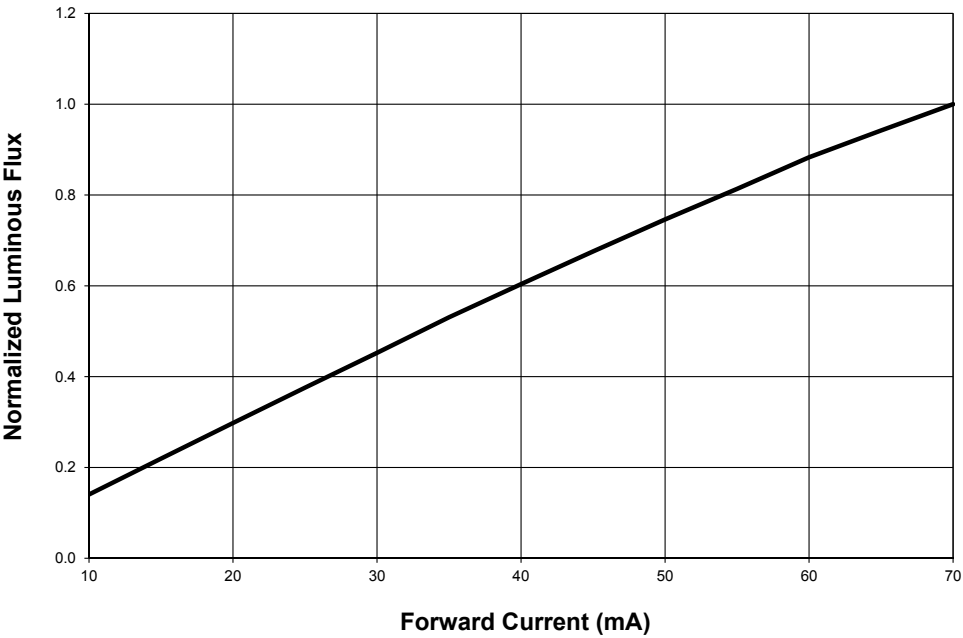

Figure 4. Typical luminous flux vs. forward current for Superflux.
1. Derate as shown in Figures 4.